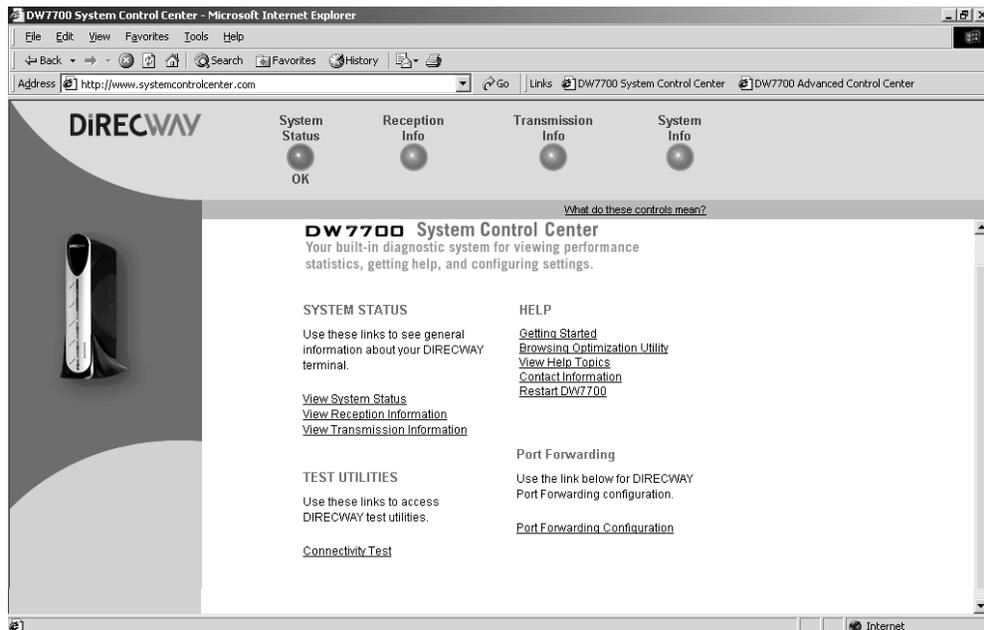

Figure 73: System Control Center
The System Control Center Home page is shown in Figure 73.
1. Have the customer access the System Control Center by typing **www.systemcontrolcenter.com** in a web browser location bar and pressing **ENTER**. The System Control Center in Figure 73 appears.